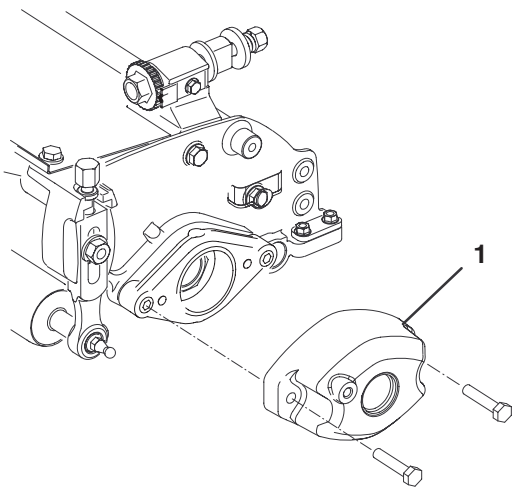

Figure 14
3. Allen head screw (2)
- B. Remove the 2 capscrews securing the counter weight to the left end of the cutting unit. Remove the counter weight (Fig. 14).